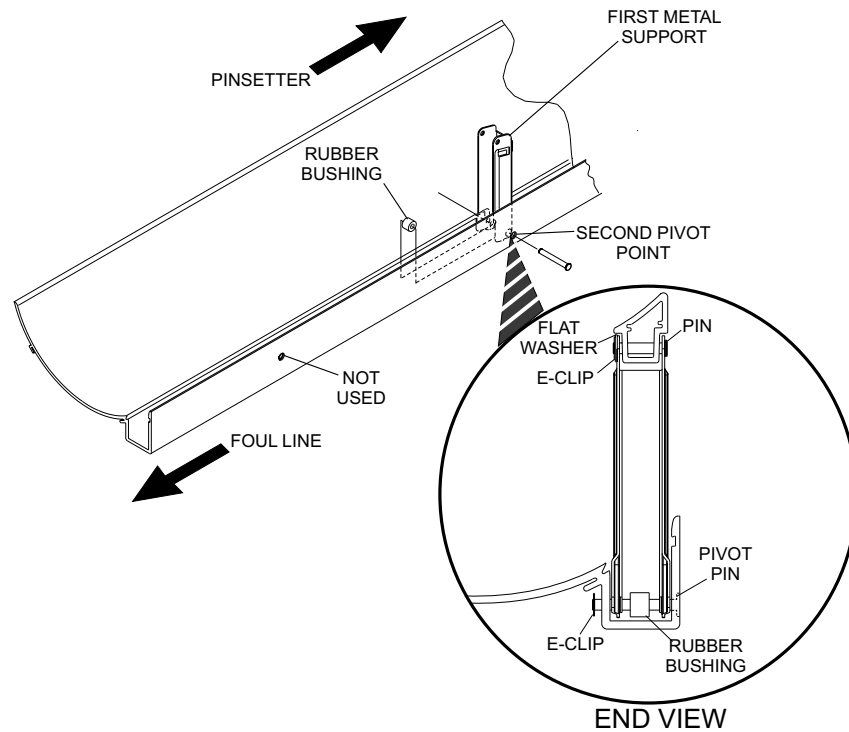

Figure 9
11. Insert the pin through the gutter and halfway through the wide end of the vertical support. Slide the **rubber bushing** onto the pin and continue to push pin through the upright and gutter. Refer to *Figure 9*.